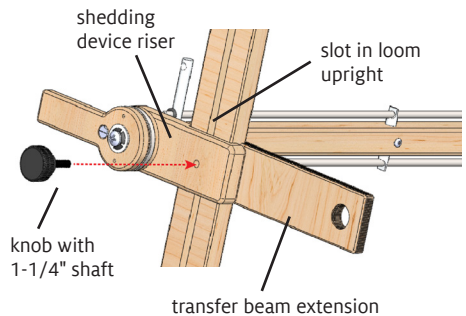

FIGURE 7: ATTACH TRANSFER BEAM EXTENSION ON HANDLE SIDE
7. Attach the first transfer beam extension: On the handle side of the shedding device, remove the knob, nylon washer, and T-nut holding the riser in the slot of the loom upright; store these parts. Insert a knob with a 1-1/4" shaft through the riser and slot (Figure 7). Add one transfer beam extension on the inside of the loom, with its large hole at the back of the loom, and tighten the knob.